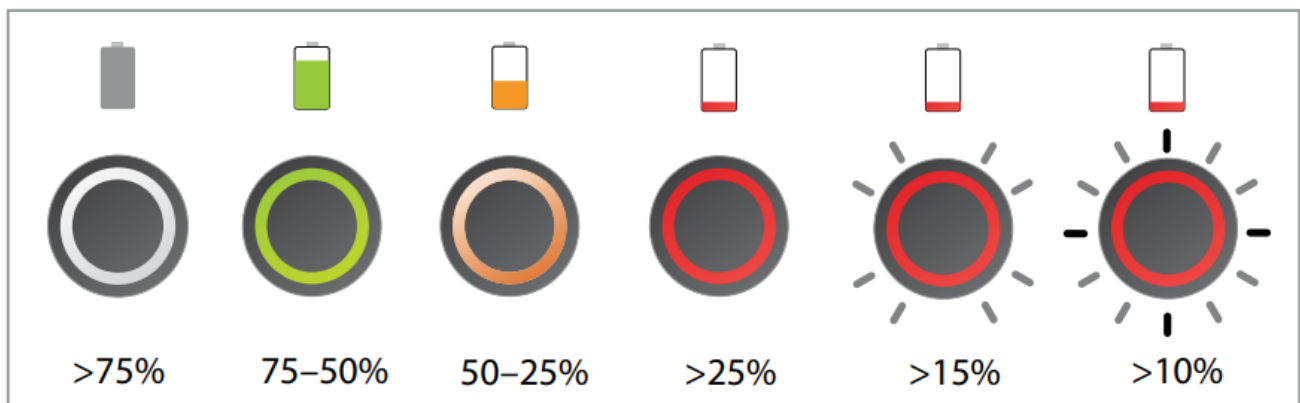
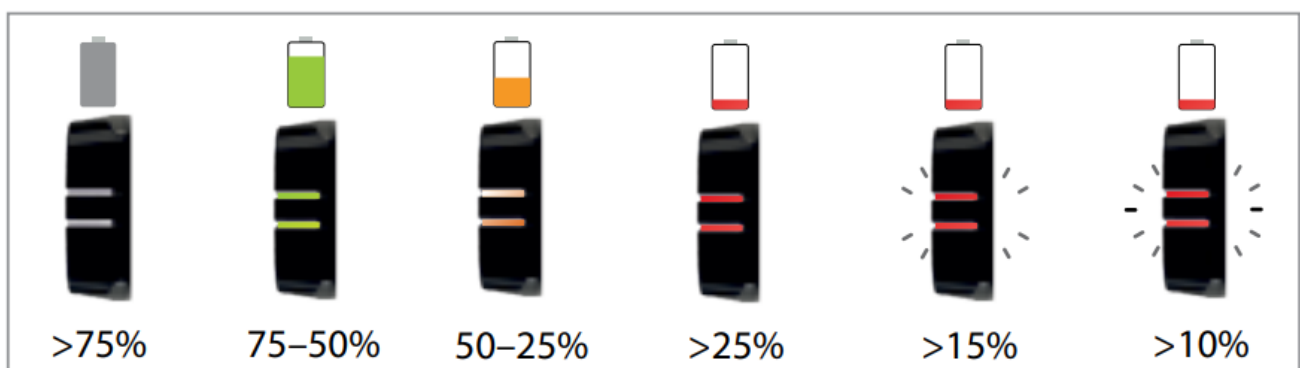

Figure 5
Figure 6
4. Once the LED indicator on the charger is green, twist the safety ring counterclockwise and detach the charger. While the battery charges, the iWOC One (Figure 5) and iWOC Trio (Figure 6) controller lights also change color and blink to indicate the charging status. When the iWOC One/Trio lights are white and no longer blinking, the battery is fully charged.